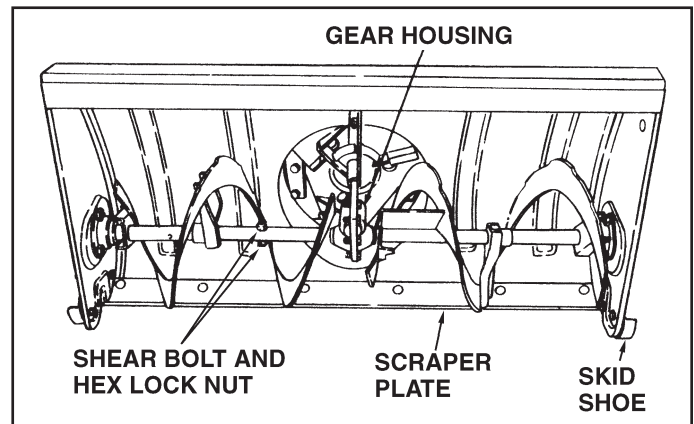

FIGURE 65
- If the augers will not turn, check to see if the shear bolts have sheared. See figure 65. Two replacement shear bolts and nylock nuts have been provided with the snow thrower. For future use order part number 710-0890A shear bolt and number 47810 nylock nut.